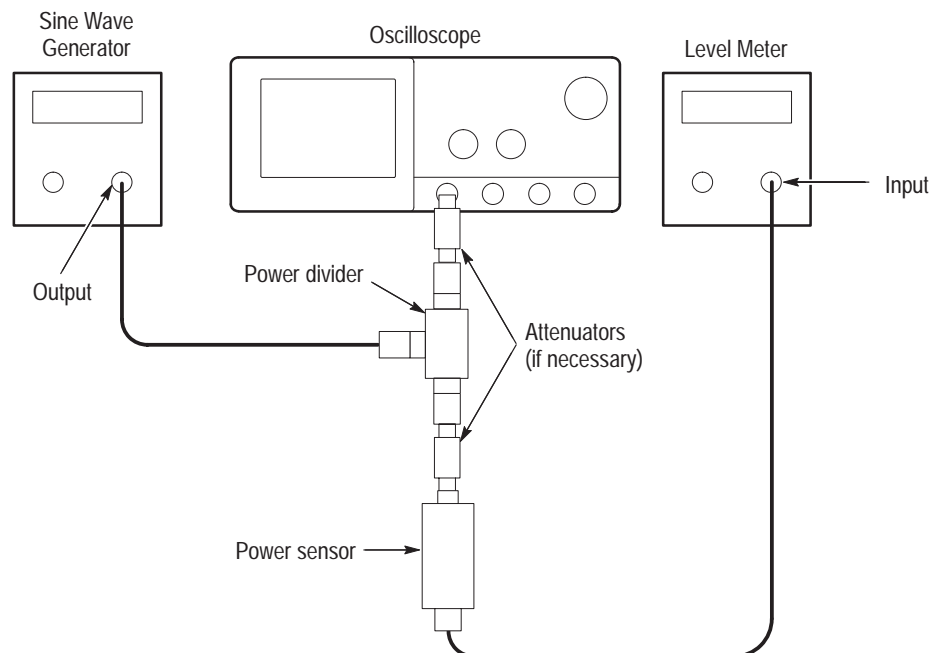

Figure 4-40: Sine wave generator leveling equipment setup
1. *Install the test hookup:* Connect the equipment as shown in Figure 4-40.